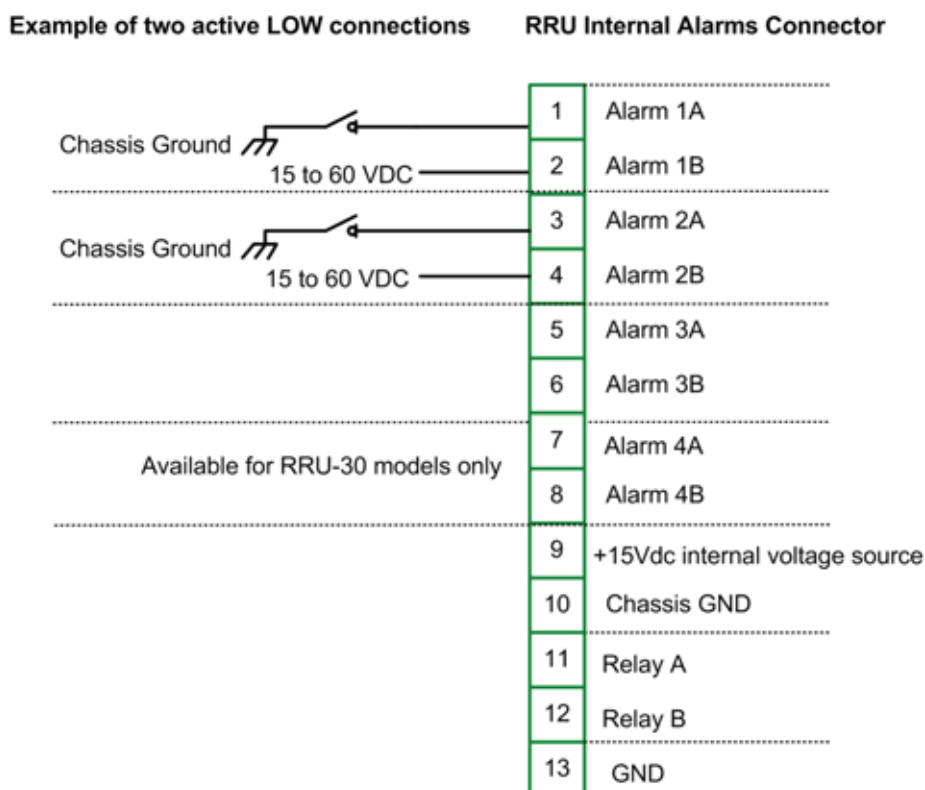

Figure 5-34: Dry Contact Alarms Pinout and Connection Example
4. Wire the alarms to the connector according to Figure 5-34. The figure provides an example of two active low alarms connections.